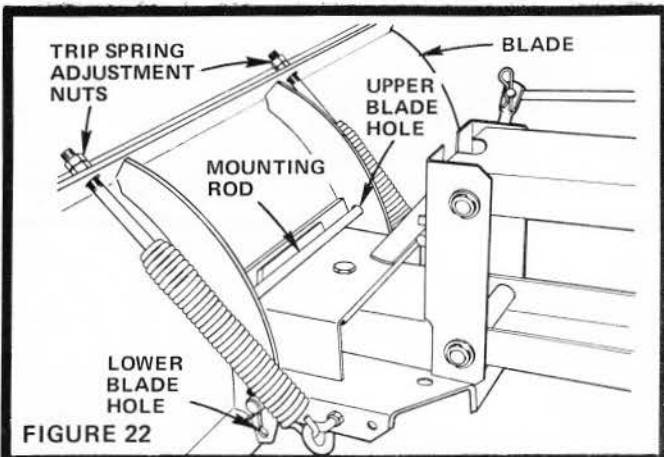

FIGURE 22
Trip Springs have been adjusted at the factory to provide only a slight tension which is all that is normally necessary. To change spring tension, adjust the Nuts at the upper end of the Trip Springs (Fig. 22).
1. When moving snow or other light material, place the Mounting Rod in the Lower Blade Hole (Fig. 22). This frees the Blade to spring trip and return if a heavy obstacle is encountered. Secure with retainer springs.
2. When heavier material must be moved, place the Mounting Rod in the Upper Blade Hole (Fig. 22). This places the blade in rigid operating position. Secure with retainer springs.